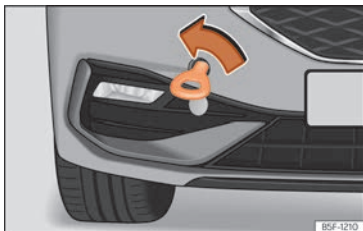

Fig. 212 Right side of the front bumper: towline anchorage screwed in.
- Screw the towing eye in the housing by turning it to the maximum **anticlockwise** >>> Fig. 212, >>> Ⓞ. Use a suitable object that can completely and securely tighten the towing eye in its housing.